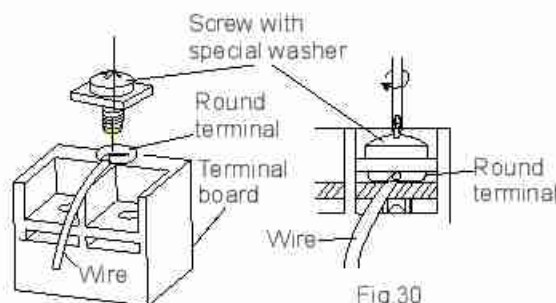

Fig.30
- (1). Cut the wire end with a wire cutter or wire-cutting pliers, then strip the insulation about 10mm (3/8").
- (2). Using a screwdriver, remove the terminal screw (s) on the terminal board.
- (3). Using a round terminal fastener or pliers, securely clamp a round terminal to each stripped wire end.
- (4). Position the round terminal wire, and replace and tighten the terminal screw with a screwdriver.(Fig.30)